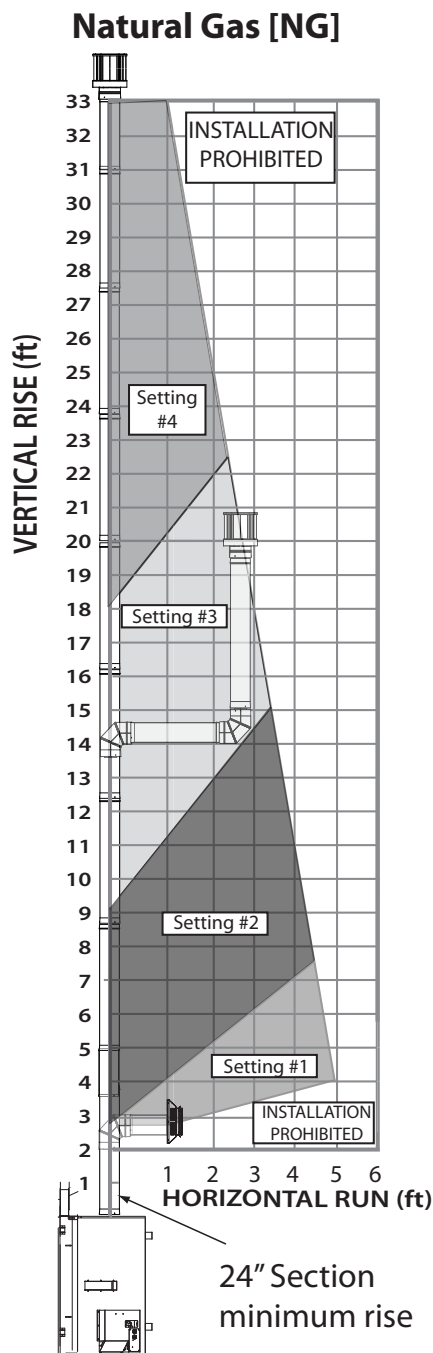
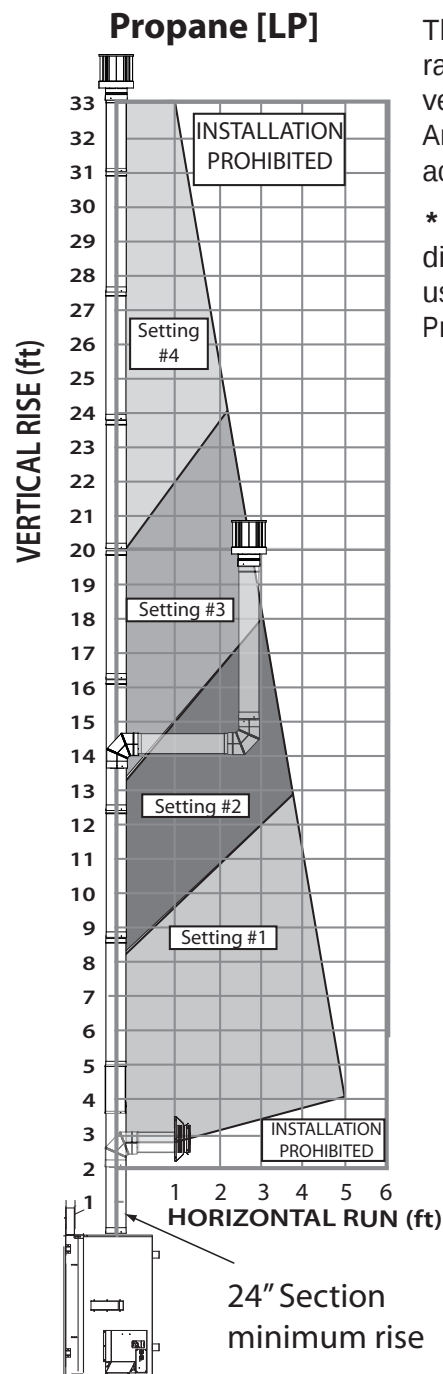

Figure 62: 8" x 11" NG Vent Graph
Figure 63: 8" x 11" LP Vent Graph
***Note:** Be sure to use the proper diagram depending on if your unit uses Natural Gas (Figure 62) or Propane (Figure 63).